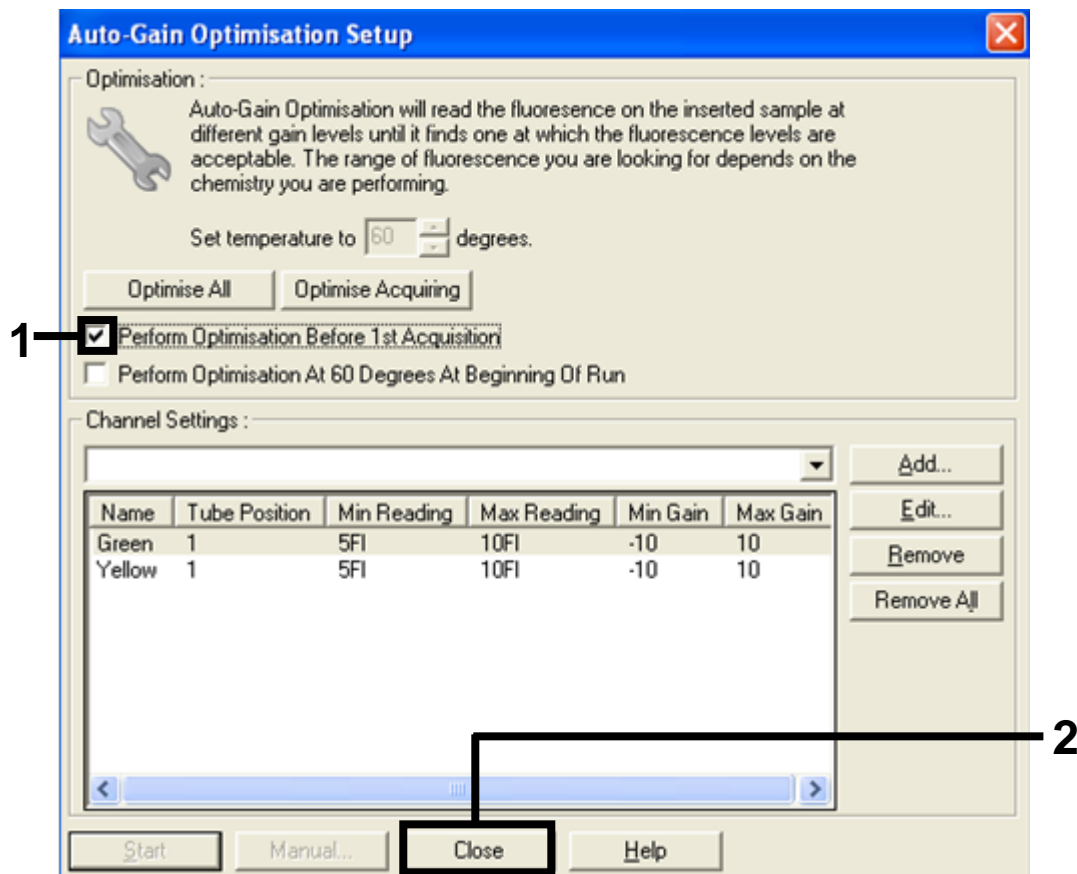

Figure 32. Selection of Green and yellow channels. (1 = “Perform Optimisation Before 1st Acquisition” tick box, 2 = “Close” button).
14. Check the “Perform Optimisation before 1st Acquisition” box, and then click the “Close” button to return to the wizard (Figure 32).